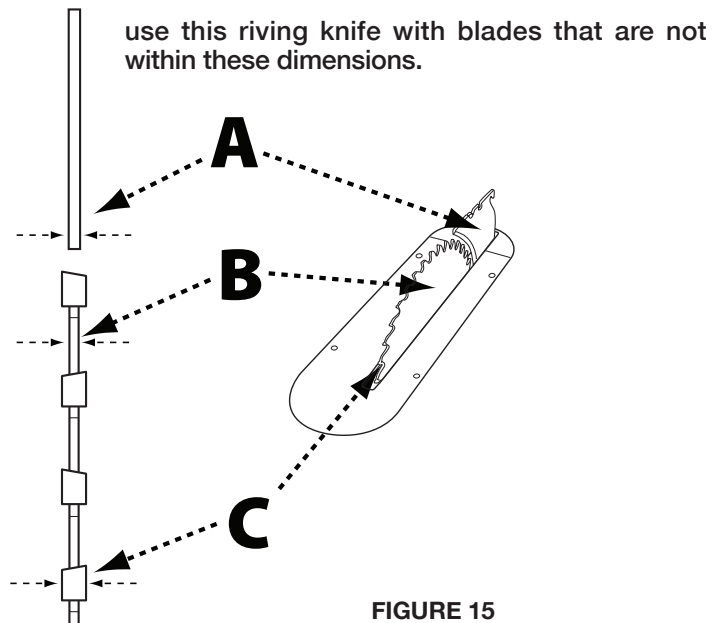

FIGURE 15
NOTE: Safety devices, blade guard assembly and anti-kickback assembly have been removed in Figure 15 in order to show the location of specific features. When operating the saw, these safety devices should be in place and working properly.
The riving knife thickness (A) must be greater than the blade body or plate thickness (B) and less than the kerf or cutting width (C) as shown in Figure 15. The riving knife provided with this saw is 2.2mm thick and may be used only with a 10-inch (254mm) blade with 0.102-inch (2.6mm) minimum kerf width and 0.073-inch (1.8mm) maximum body thickness. Do not attempt to